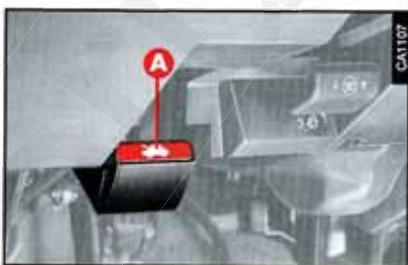

fig. 102
- Pull the lever (A-fig. 102) until the bonnet clicks open.